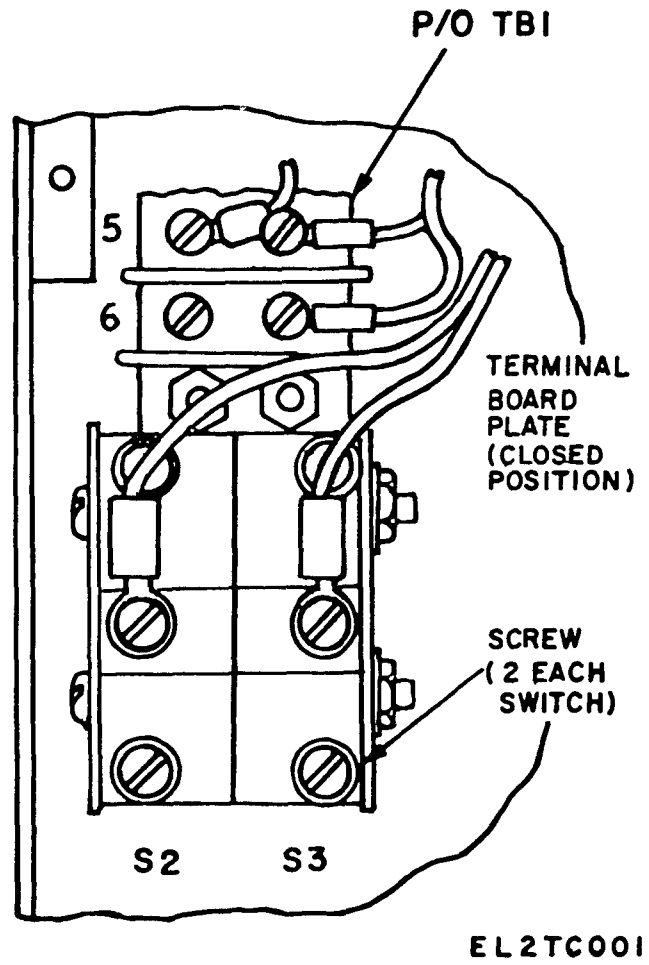

Figure 3-1. Rear view of interlock switches.
b. On units procured under Contract No. 20256-PP-62-C2-41, the semiconductors on CR1 and CR2 cannot be removed. If a semiconductor is found to be defective on either CR1 or CR2, proceed with steps (1) through (7) below for replacement.
(1) Disconnect the PP-1104C/G from its source of power by removing the power cable or opening the main power circuit breaker.
(2) Remove the back cover of the power supply. Viewing the defective semiconductor on the rear of CR1 or CR2, clip the electrical lead from it.
(3) Alongside the defective semiconductor, drill a 17/32-inch hole through the CR1 or CR2 assembly heatsink plate.
(4) Mount an IN1184 semiconductor in the drilled hole as a replacement for the defective semiconductor.
(5) Solder the lead, clipped in (2) above, to the replacement semiconductor.
(6) Replace the power supply back cover removed in (2) above, and restore power to the unit.
(7) Perform the tests listed in chapter 4.
c. On units procured under Contract No. DAAB07-76-C-1363, interlock switch S2 or S3 (fig. 3-1) can be removed by disconnecting the wires attached to the switch and loosening the screws. Make sure the replacement switch is positioned so that the switch is firmly pressed-in when the terminal board plate is closed. Secure the replacement switch with screws and attach the previously removed wires.